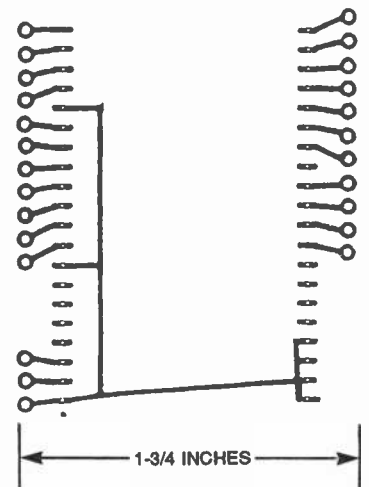

Fig. 5. The display board template is shown here.
4), and the display-module board (Fig. 5). The printed-circuit boards can be obtained from the source given in the Parts List, or you can etch and drill your own. Alternatively, the circuit can be hard-wired on one or more perfboards providing that proper orientation of the accelerometer is maintained, as explained later.
Fig. 5. The magnification factor ( $Q$ ) shows what voltage will appear across the coil and capacitor in a series resonant circuit (A), and what current will develop in the parallel tuned tank (B).